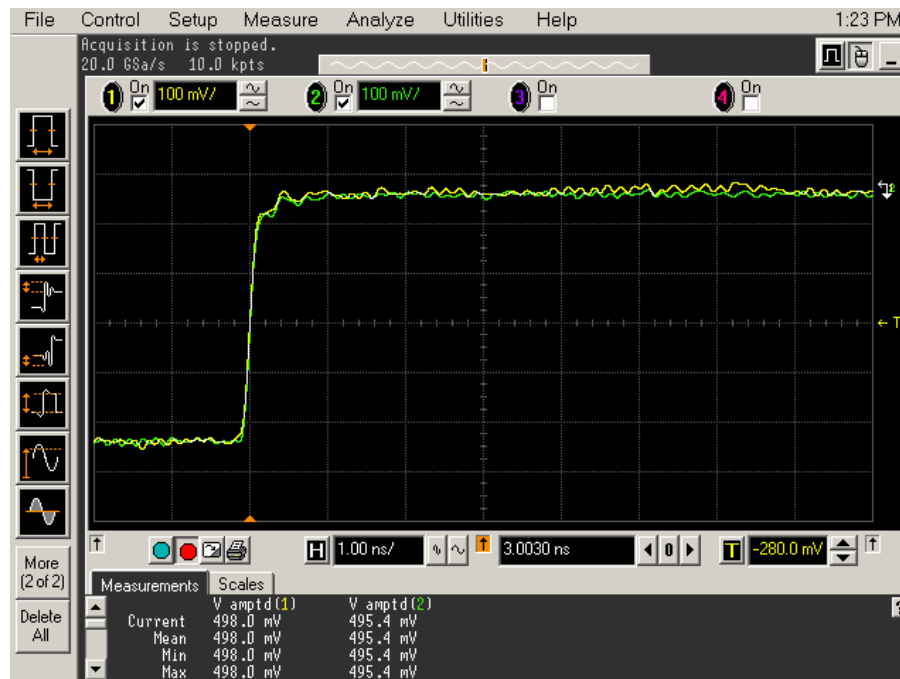

Figure 52 Calibration Probe Waveform Example
- 23 In the Acquisition Setup dialog box enable averaging. When you close the dialog box, you should see waveforms similar to that in Figure 52.